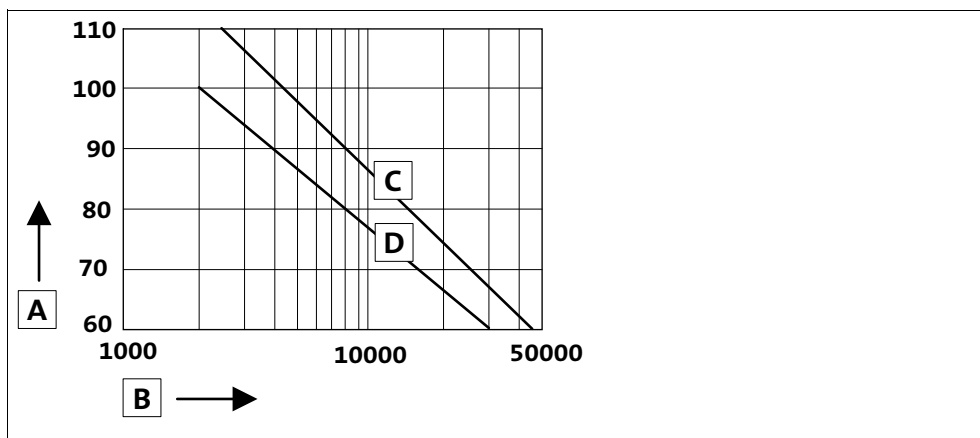

Fig. 18 Lubricant diagram
- The lubricant change depends on the lubricant temperature, see Fig. 18.